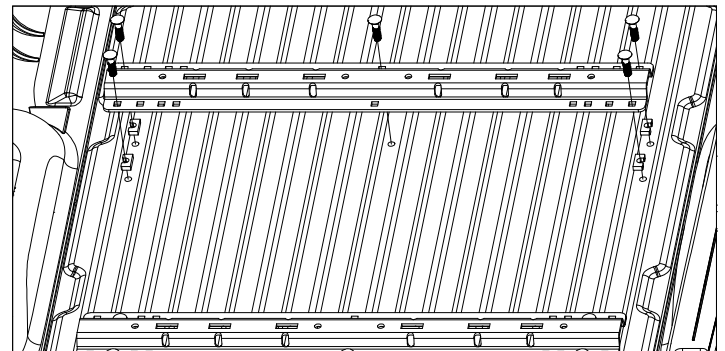

Figure E5: View looking into truck bed from rear of truck.
- 5. Install forward mounting rail.** Refer to the "INSTALL MOUNTING RAILS" section, Step 1, and install the forward mounting rail. Notice that the U-shaped spacer placement is different. See Figures E5 and E6.